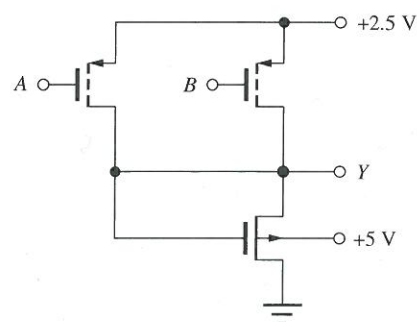

Figure P6.155
- 6.155. What is the logic function Y for the gate in Fig. P6.155?